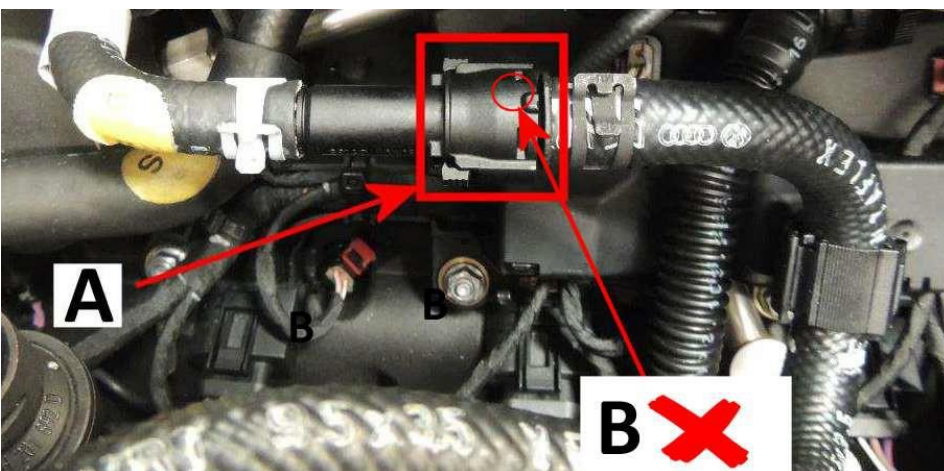

Figure 2
2) Referring to Figure 2 (Incorrect orientation) - Locate the connection at (Point A)